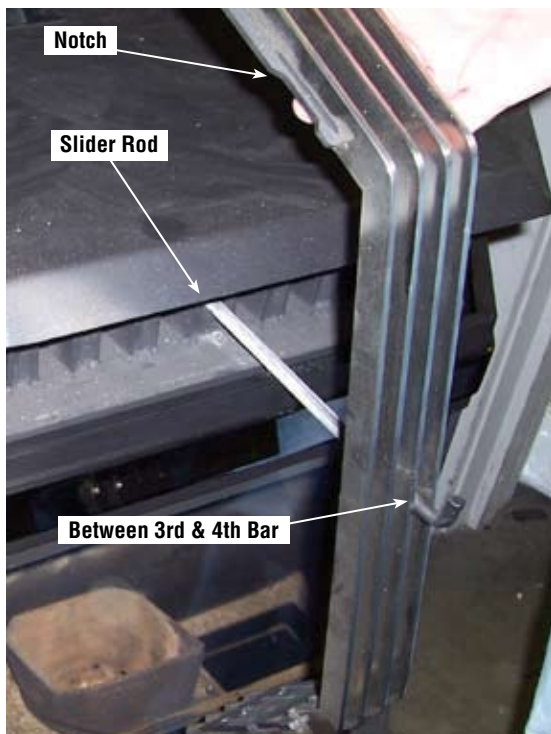

Figure 22
2. Pull the scraper rod out, rotate the grill vertically, (with the notch to the left) and slide the grill over the scraper rod (slide the rod between the third and fourth bar). See **Figure 22**.